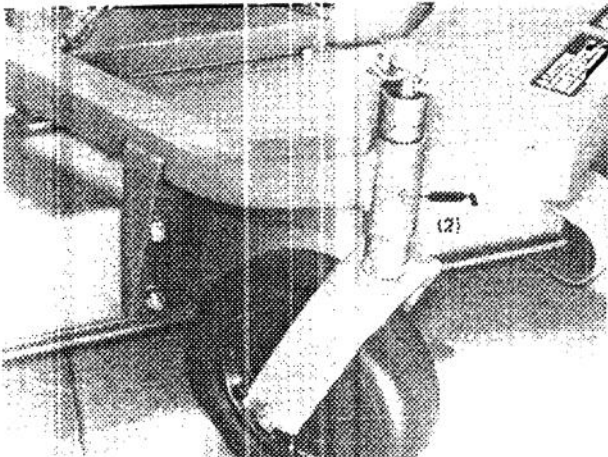
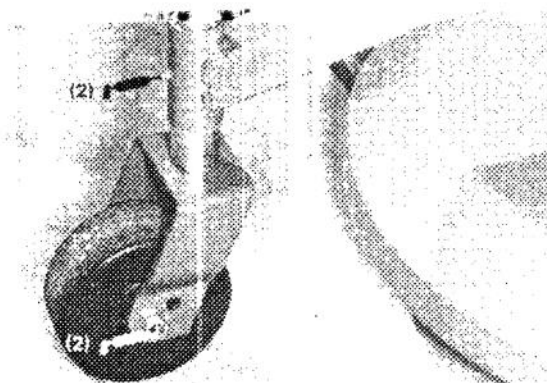
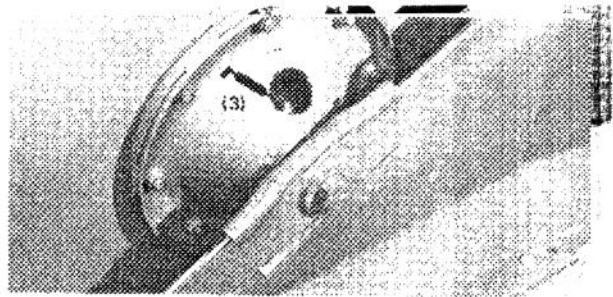
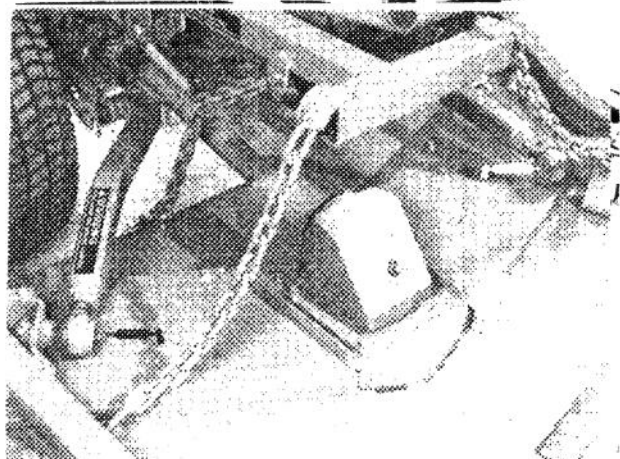

Figure 17
Figure 18
Figure 20
Figure 21
1. The cutting unit has bearings and bushings that must be lubricated, and these lubrication points are: caster spindle bushings (Fig. 17 and 18); caster wheel bearings (Fig. 18 and 19); blade spindle bearings (Fig. 20); right and left push arm ball joints (Fig. 21).